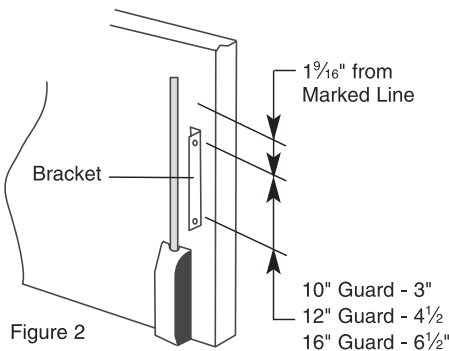

Figure 2
Step 2. (Figure 2) Locate the latch guard bracket $\frac{1}{16}$ " inside of the line made in step 1 to allow for the thickness of the cover. Select the leg of the angle bracket that is 1" wide and use the prepunched $\frac{3}{16}$ " diameter holes as a template. Then drill and tap the two #8-32 holes in the door for the mounting bracket.
Step 3. (Figure 2) Mount the bracket with two #8-32 pan head machine screws.